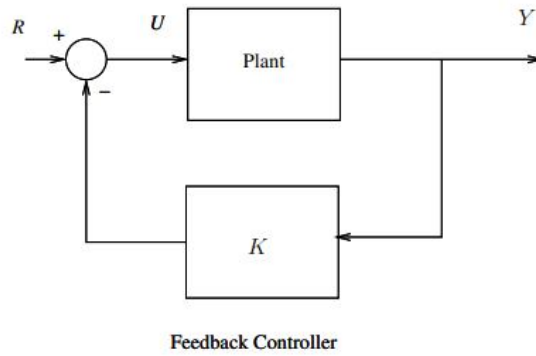

Figure 1: Static feedback control system.
- Note that the time constant of the transient is $\tau = 1/a$ is also related to the location of the pole. To achieve a desired rate of convergence, the designer must place the pole at a corresponding location; e.g., using the state or output feedback; see Figure 1.